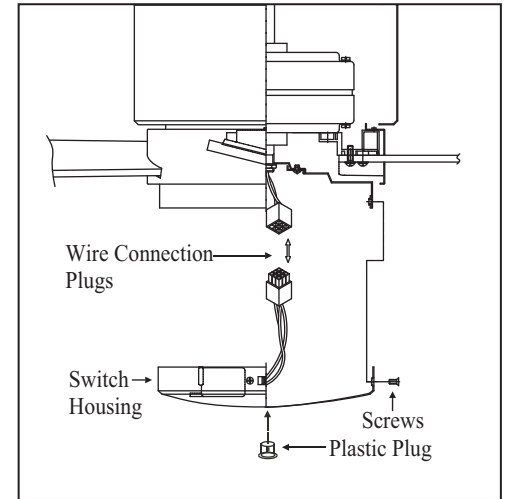

Figure 18
2. Attach the plastic plug to the switch housing. (Fig. 18)